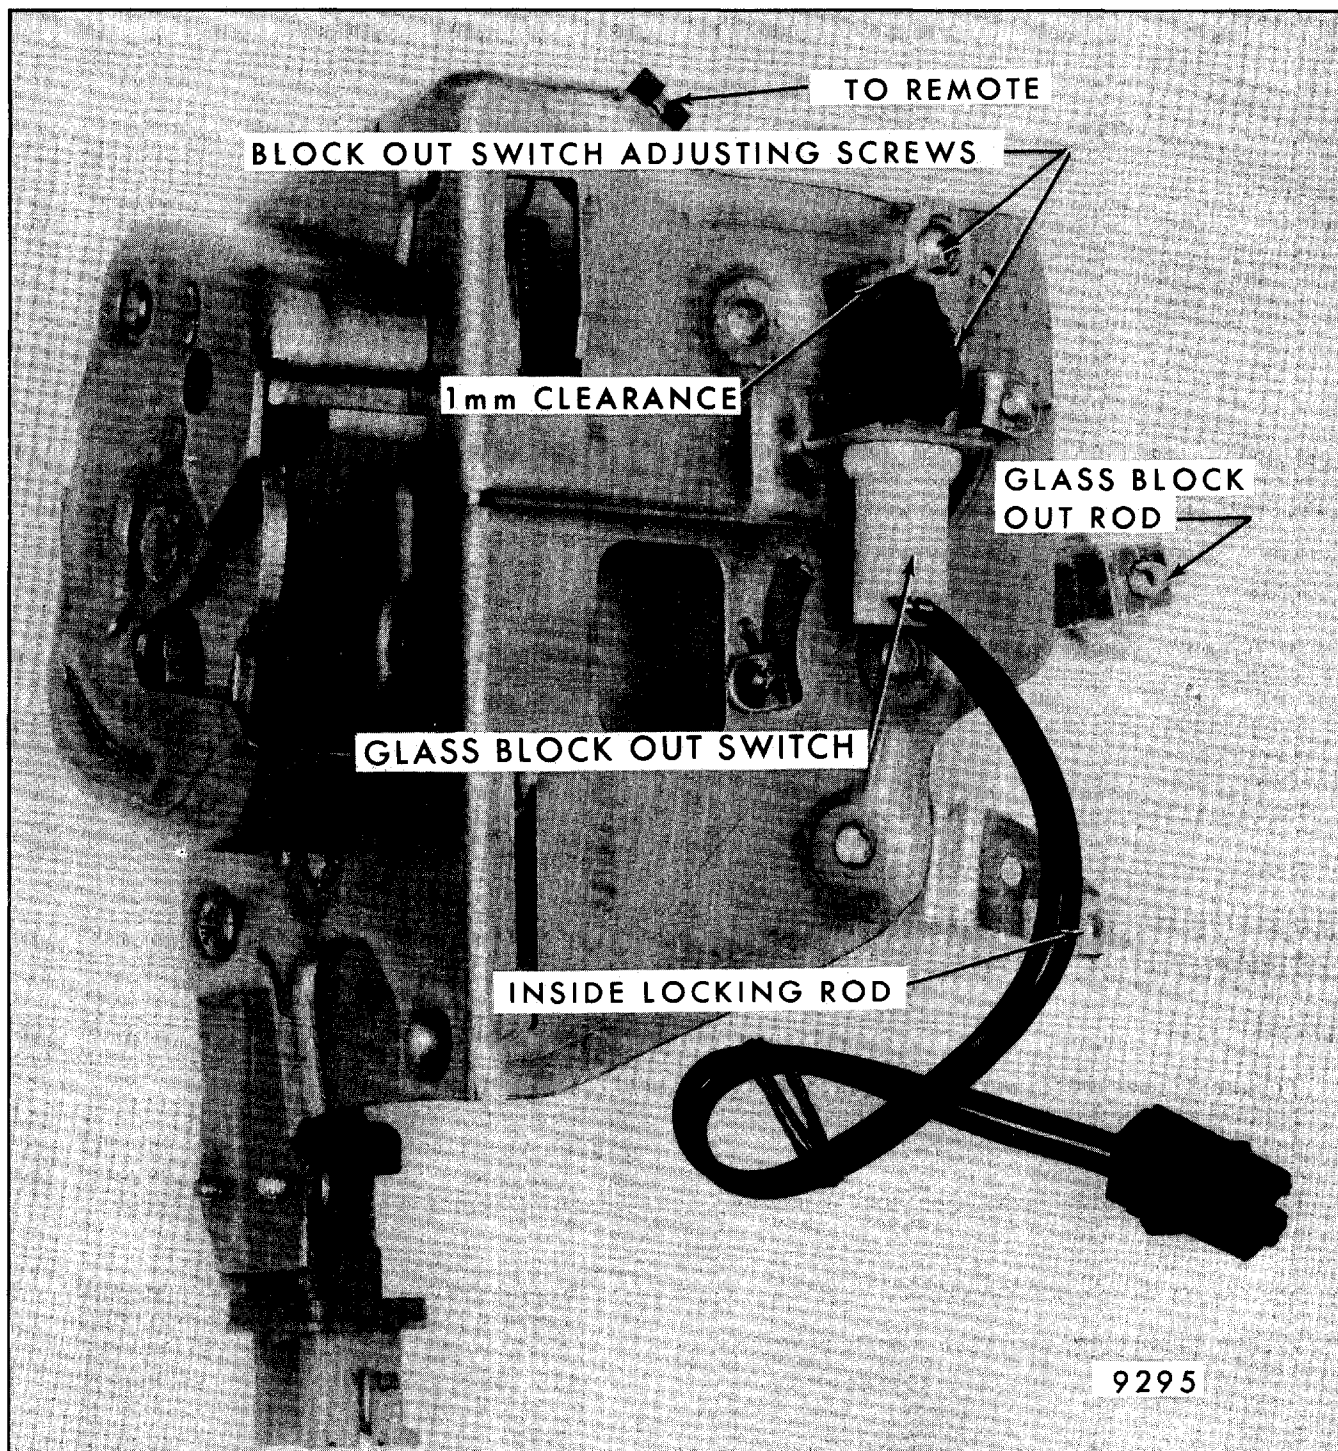

Fig. 7-139 - Tailgate Upper Right-Hand Lock Assembly
TAILGATE GLASS BLOCKOUT SWITCH (Fig. 7-139)
2. Adjust switch to achieve a 1 mm (.039) clearance between the blockout switch plunger and the locking lever (see Fig. 7-139).
TAILGATE RIGHT UPPER LOCK ASSEMBLY (Figs. 7-139 and 7-143)